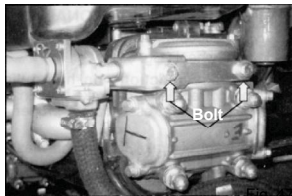

Fig. 47
- (A) Remove hex bolts (Fig . 47) of mounting bracket secondary air system.
- (B) Disconnect tube to Air cleaner box (X), intake manifold (Y) by removal of spring clips.
- (C) Disconnect tube (Z) to Silencer by removal of hose clamp.
- (D) For cleaning, blow air through pipe X. Y. Z.
- (E) Check tubes for leakage replace if necessary.